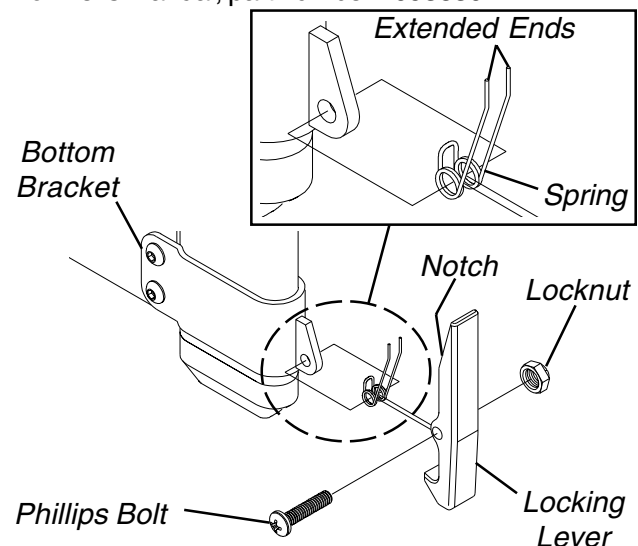

FIGURE 2 - REPLACING THE T-ARM LOCKING LEVER
REPLACING THE T-ARM LOCKING LEVER (FIGURE 2)
4. Position spring on bottom bracket as shown in FIGURE 2.